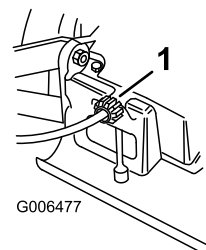

Figure 25
If the mower does not self-propel or has a tendency to creep forward when the blade control bar is **more** than 1-1/2 inches (3.8 cm) from the handle, adjust the wheel drive control knob on the rear of the gear box (Figure 25).
2. Rotate the control knob clockwise a half turn if the mower does not self-propel. If the mower creeps forward, rotate the knob a half turn counterclockwise to loosen the belt (Figure 25).